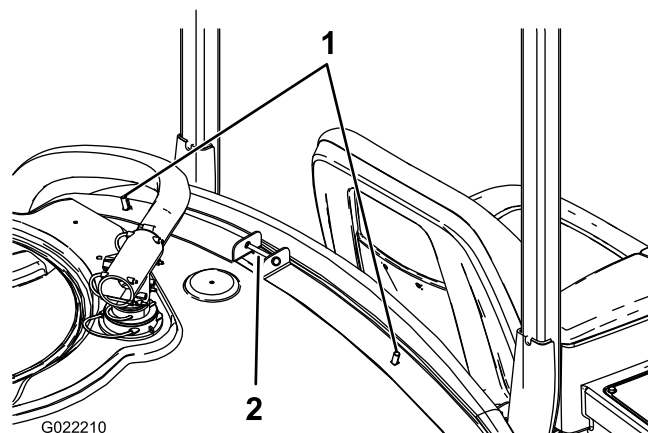

Figure 2
2. Install 2 carriage bolts in the upper inboard holes on the front tank straps (Figure 2).